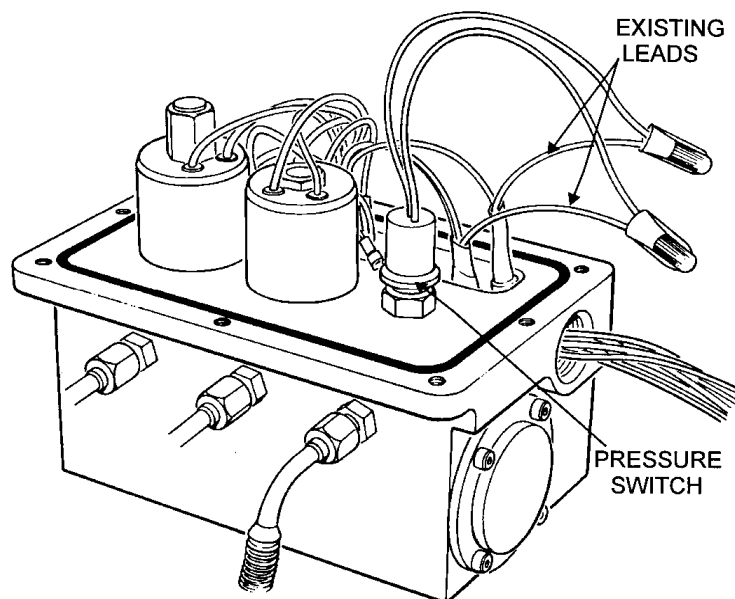

Figure 12. Wiring Connections
3. Connect one pressure switch lead to each lead that was connected to the original pressure switch, using the two wire nuts supplied [Figure 12]. **You must seal the wire nuts to insure the switch will operate properly and to maintain warranty!**
5. Carefully tuck the wiring harness [Figure 12 on page 31] back into the cavity in the VLLD Controller Housing, ensuring that the wires do not extend over the flat surface the cover rests upon.